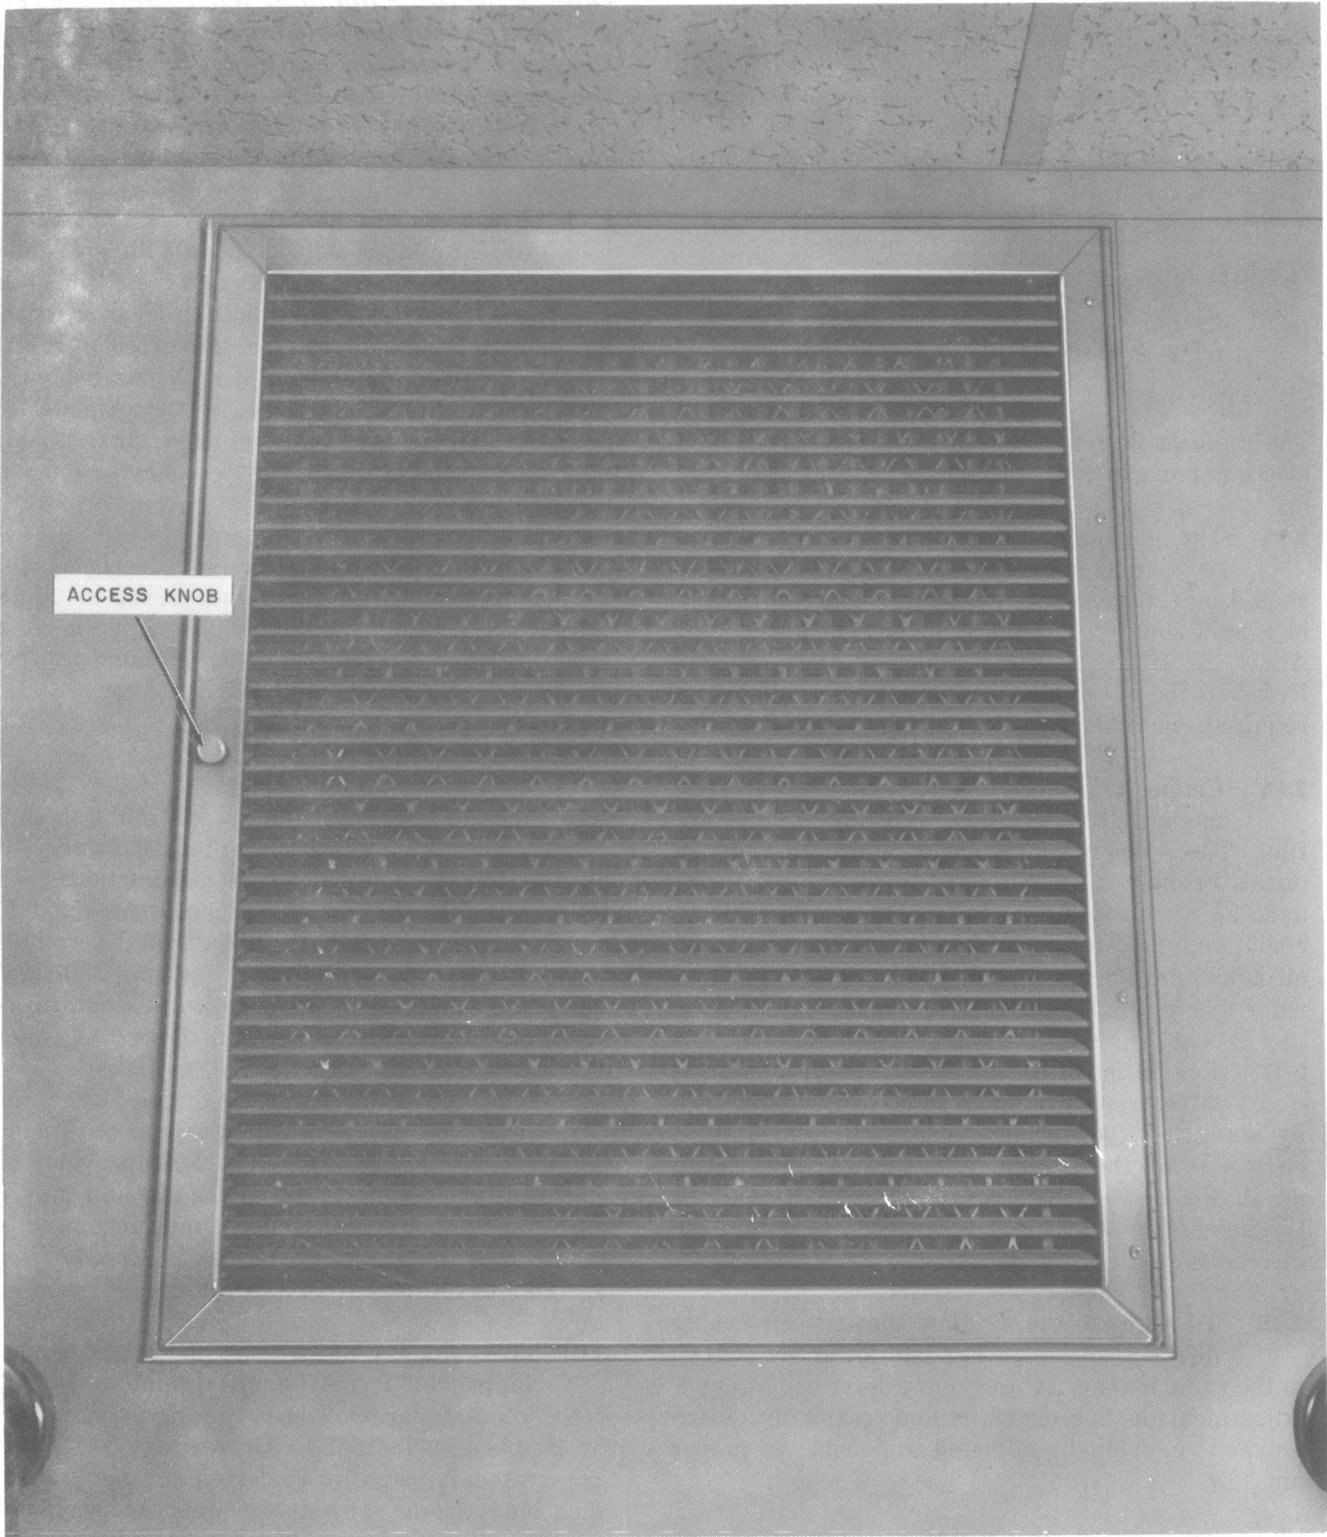
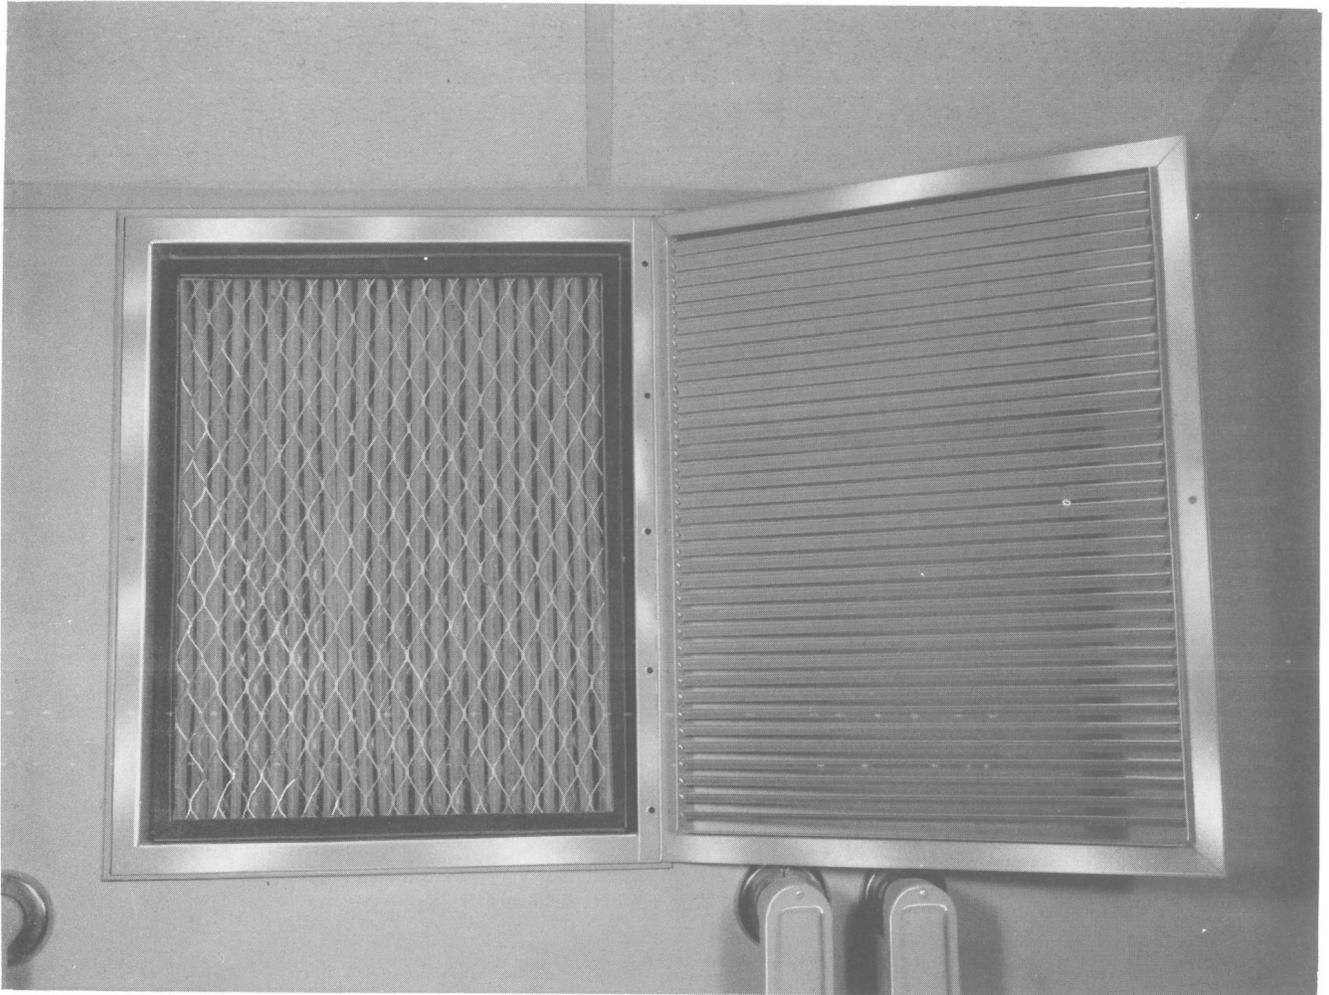

Fig. 6—HVAC Return Air Grille
Fig. 7—HVAC Return Air Filter
2.13 Return Air Filter: To gain access to the return air filter (Fig. 6), turn the access knob to the left, pull, and swing the hinged grill to the right. The filter (Fig. 7) can then be easily removed. Once removed the return air passageway